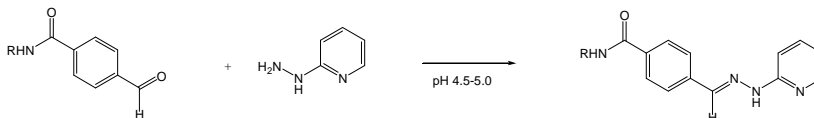

Figure 2: Colorimetric reaction used to quantify number of 4FB linkers on a biomolecule
The HyNic-4FB conjugation couple is chromophoric- the conjugate bond absorbs at 354 nm and has a molar extinction coefficient of 29000. This allows (1) real time spectrophotometric monitoring of a conjugate reaction, (2) ability to 'visualize' the conjugate during chromatographic purification using a UV or photodiode array detector and (3) quantification of conjugation. Furthermore, the level of incorporation of 4FB groups can be quantified colorimetrically as reaction with 2-hydrazinopyridine (Solulink catalog# # S-2002) yields a chromophoric product that absorbs at A350 with a molar extinction coefficient of 18000 (Figure 2). Links to procedures and calculators to guide users through this process are given in the procedures below.
- The molar substitution ratio (MSR) can be determined using a colorimetric reaction outlined in Figure 2. Addition of 2-hydrazinopyridine to a 4FB-modified biomolecules yields a compound that absorbs at 350 nm. Refer to the 4FB-Protein Colorimetric MSR Calculator or the 4FB-Oligonucleotide Colorimetric MSR Calculator as well as the protocol that is appropriate for your lab equipment: 4FB Colorimetric MSR Assay Protein Nanodrop Method Protocol, 4FB Colorimetric MSR Assay Protein Spectrophotometer Method Protocol, 4FB Colorimetric MSR Assay Oligonucleotide Nanodrop Method Protocol, or 4FB Colorimetric MSR Assay Oligonucleotide Spectrophotometer Method Protocol.